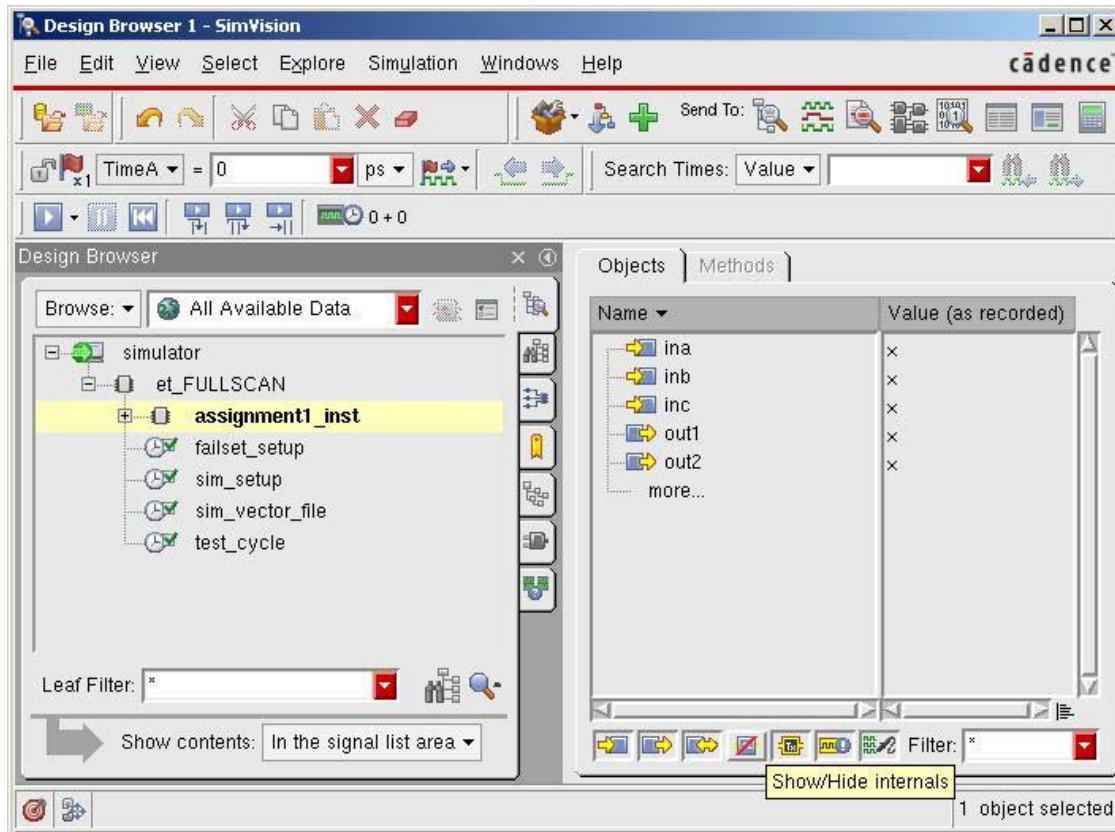

Figure 8: NC-Sim screenshot, signal selection
2. Use your compiled command to start NC-sim; the results is shown in Figure 8